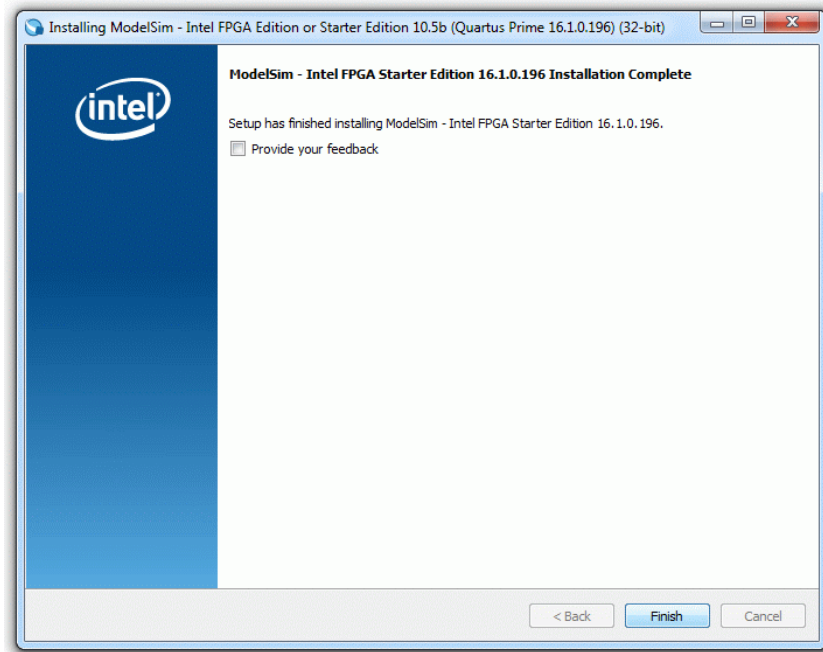

Figure 4: ModelSim installation (Part 4)
- Wait until the installation has finished (this usually takes a few minutes). The window shown in Figure 4 should appear. Click "Finish". ModelSim-Intel FPGA Starter Edition has now been successfully installed.